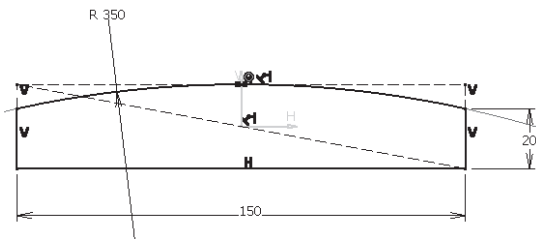

Figure 6-89 Sketch of the base feature
- Create the base feature of the model by extruding the sketch drawn on the zx plane equally on both the sides of the sketch plane, refer to Figures 6-89 and 6-90.
2. Draw the sketch, as shown in Figure 6-89, and exit the **Sketcher** workbench.